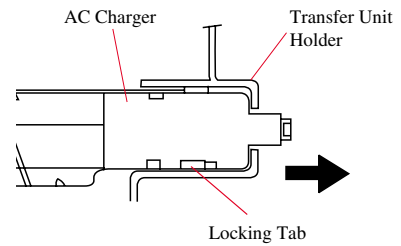
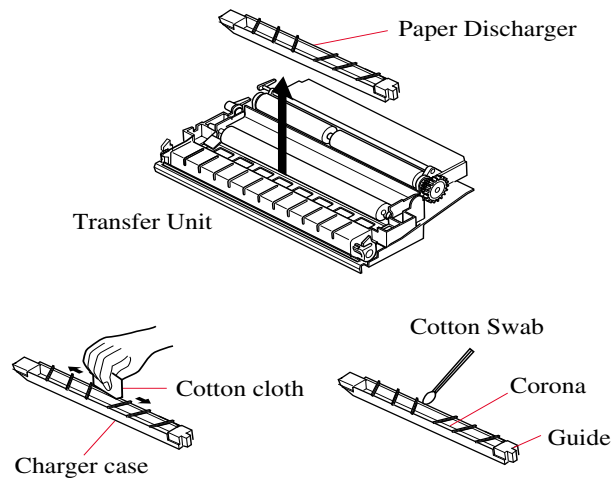

Fig. 5-5
Fig. 5-6
5.2.2.4 Cleaning Procedures (see Fig. 5-5 and Fig. 5-6):